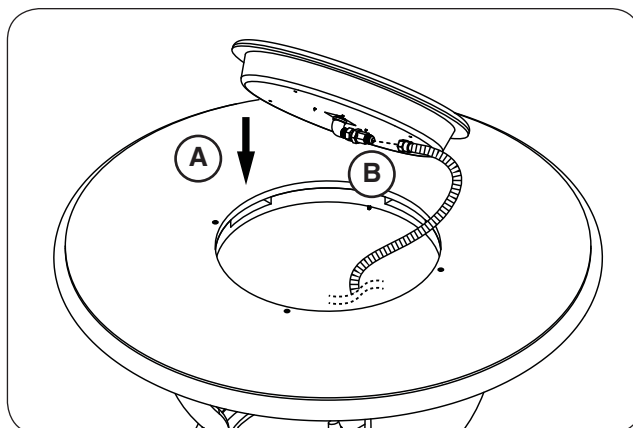

Fig. 19-4 Place burner and connect flex
5. Drop the burner assembly into the opening in the center of the firetable top (see Fig. 19-4, A).
6. Locate the flex connector (marked OUT) that is coming off the valve assembly. Route it to the connection found on the underside of the burner assembly and connect. Tighten securely. See Fig. 19-4, B.